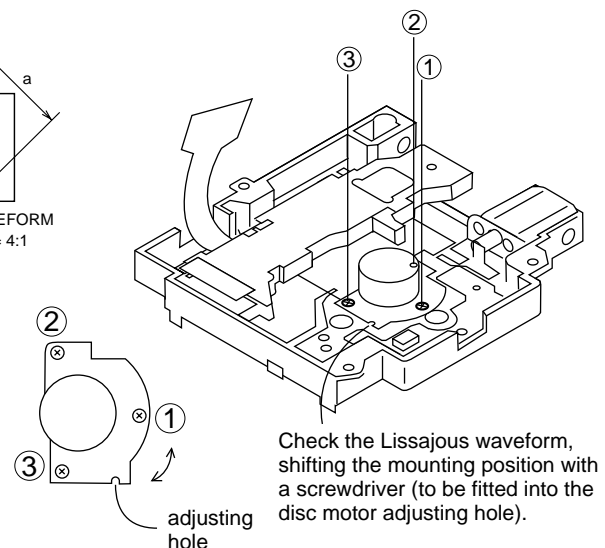

Figure 27-4
2. After adjustment, tighten screws 1, 2, and 3 in numerical order. (See Fig. 27-4.)